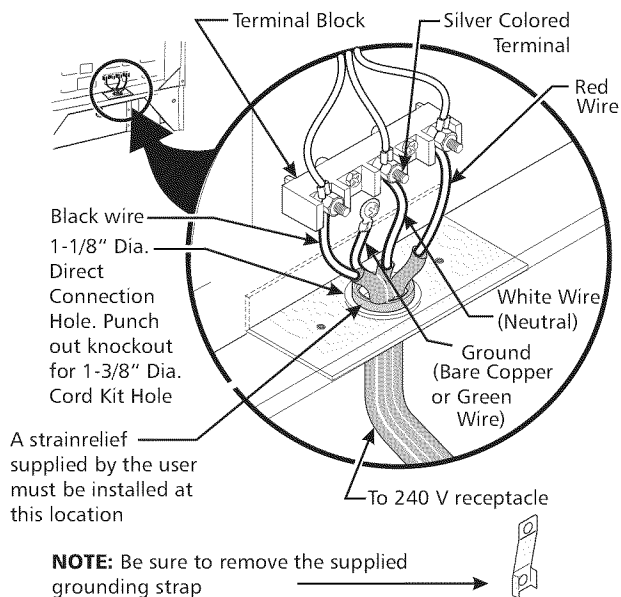

Figure 4
3. Using the nuts supplied with the literature package, connect the ground wire (green) of the copper power supply cord to the frame of the appliance with the ground screw, using the hole in the frame where the ground strap was removed (see Figure 4).
If the appliance is connected directly to the circuit breaker, fuse box or junction box, use flexible, armored or nonmetallic sheathed copper cable (with grounding wire). Supply a U.L. listed strain-relief at each end of the cable. At the appliance end, the cable goes through the Direct Connection Hole (see Figure 4) on the Cord Mounting Plate. Wire sizes (**copper wire only**) and connections must conform to the rating of the appliance.